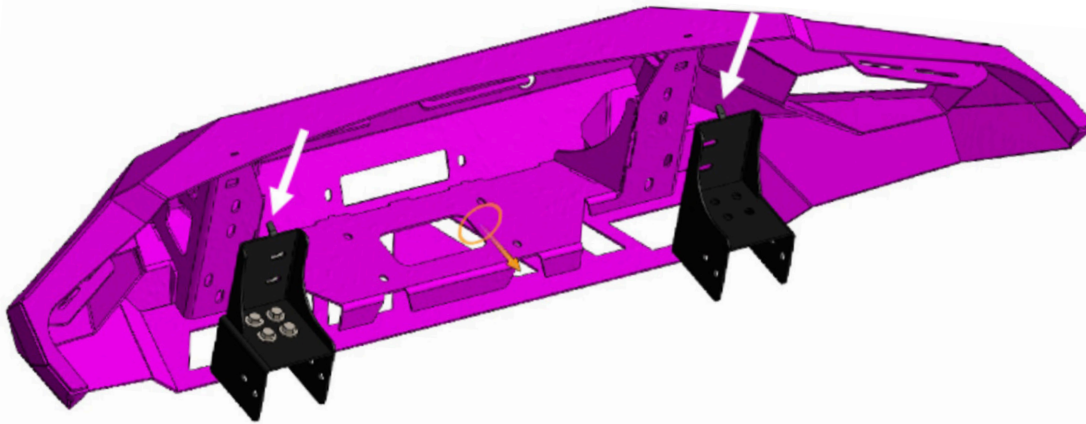

Figure 35
28. Using the built in hang tabs on the bumper mounting brackets, hang the bumper shell (Part#: 23038) in place in preparation for bolting. Figure 35